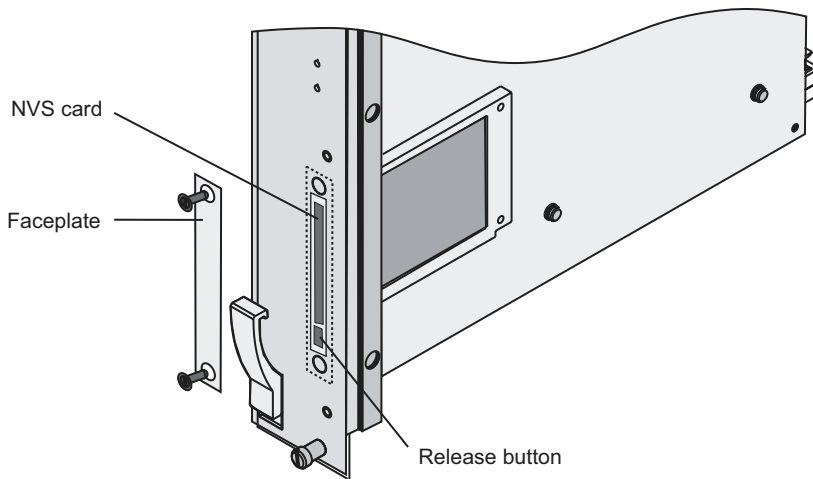

Figure 7-1 NVS card slot on SRP module
- 2** With a small flathead screwdriver, remove the faceplate from the NVS card slot on the SRP module (see Figure 7-1).
- 3** Use the screwdriver to depress the button next to the NVS card (see Figure 7-1).